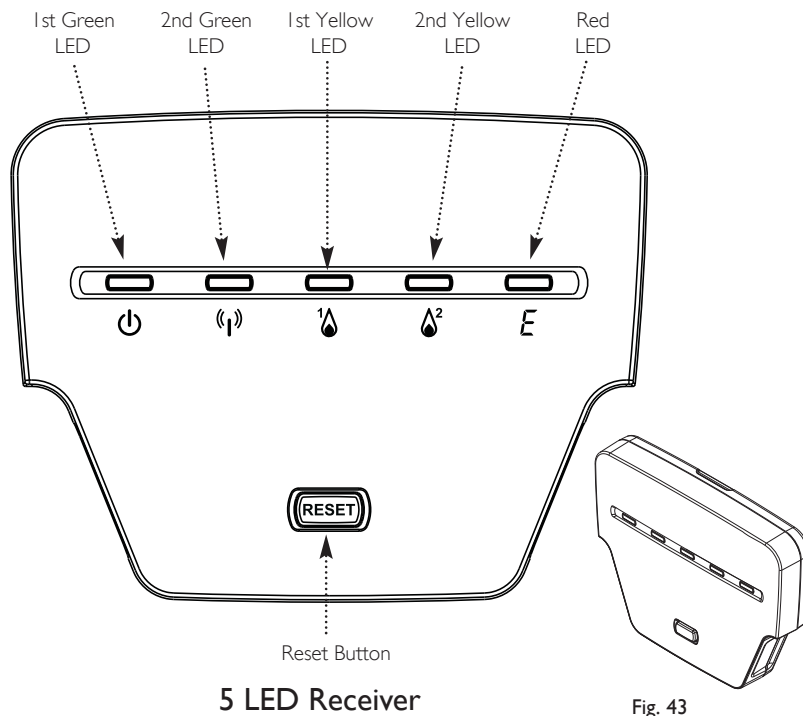

Fig. 43
### 5 LED Receiver (Fig. 43)
7. When an THINK Controller is mounted in a wall cradle, the 5 LED Receiver fills the space on the appliance. It acts as an indicator see fig. 43 and enables user resets to be carried out as they cannot be performed remotely.